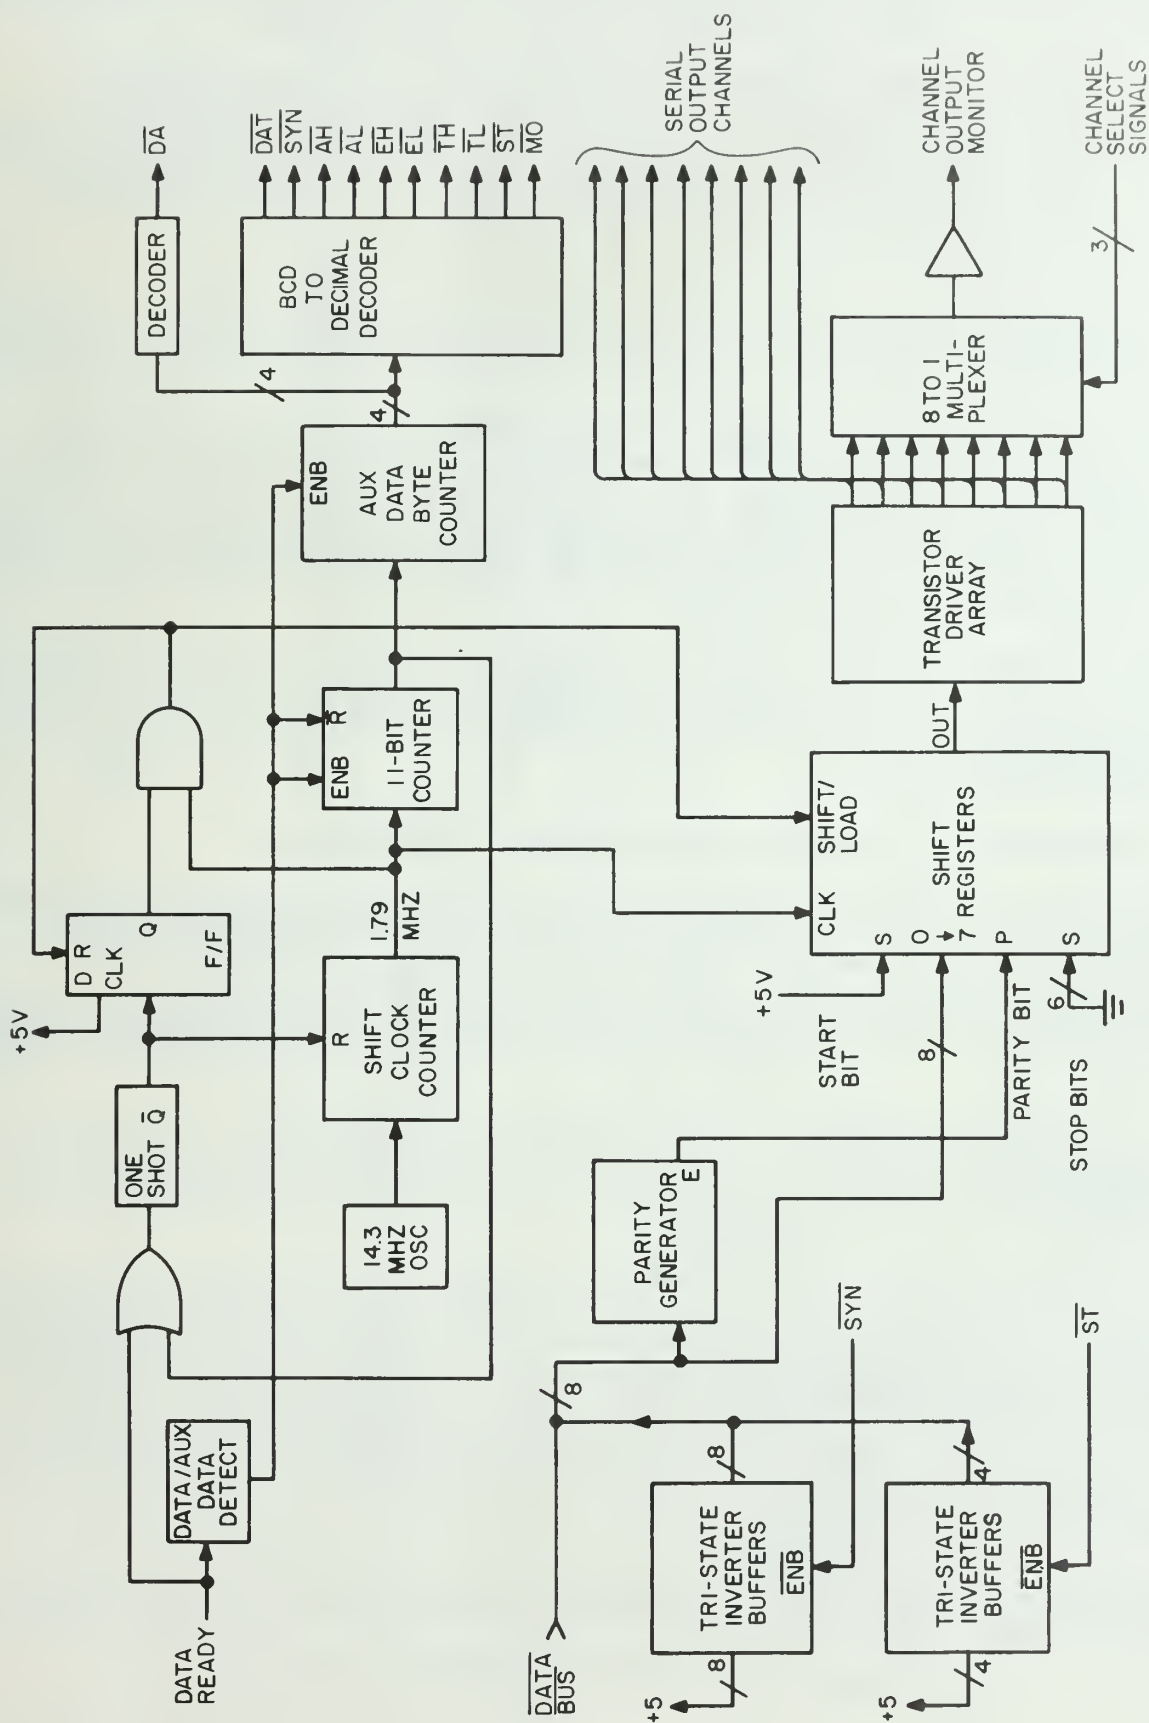

Figure 2-8. DE Transmitter CCA N1A2A8, Block Diagram
### 2.3.9 DE Transmitter CCA N1A2A8 Functioning. (See figure 2-8)
**2.3.9.1** A block diagram of the transmitter CCA is shown in figure 2-8. It is comprised of a 14.3 MHz crystal oscillator, a shift clock counter, 11-bit counter, auxiliary data byte counter, BCD to decimal decoder, various logics to generate clock signals (the DATA/AUX DATA detect circuit, one shot and flip-flop), tri-state buffers, parity generator, parallel-to-serial shift register, transistor arrays and an 8-to-1 multiplexer.